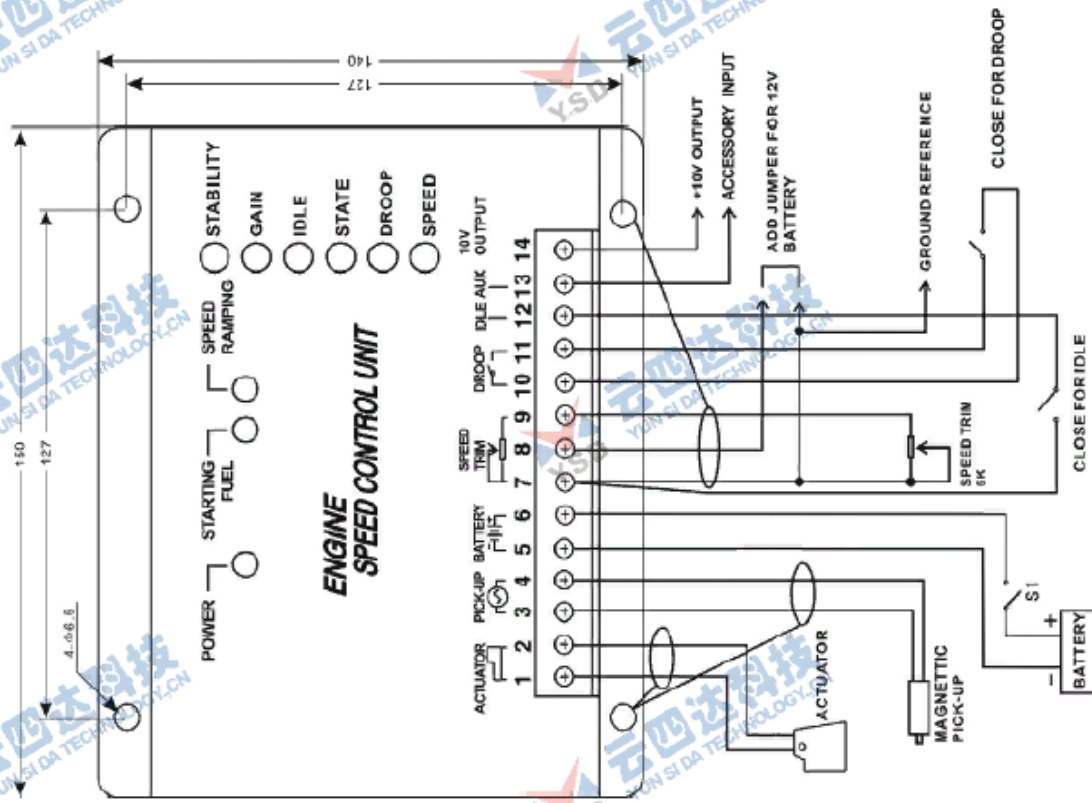
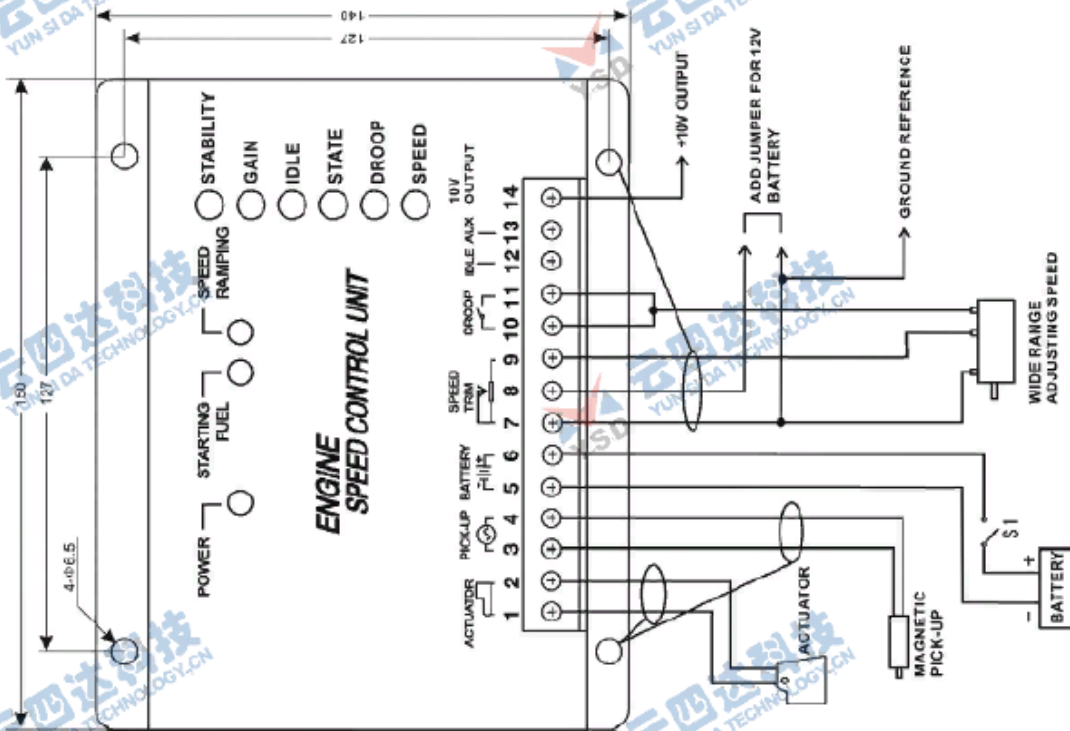

Fig.2 Electric connecting sketch map of the controller for normal generator-set
Fig.3 Electric connecting sketch map of the controller for a wide range of speed adjusting
7.9.10(11), the wide range speed adjustment will be achieved just as the fig.3 show. Clockwise rotate, speed will rise. Otherwise, speed droop. The rotate speed adjusting Range is decided by the resistance potentiometer. Just as the following table show. When using this function, high speed potentiometer should be in middle position .
Installation dimension of speed governor is shown in fig. 2.
When using for generator set, the diagram of controller is shown in fig.2. Wide range speed adjusting diagram is shown in fig.3.
- Inspect whether the related electrical connections are correct according to fig. 2.